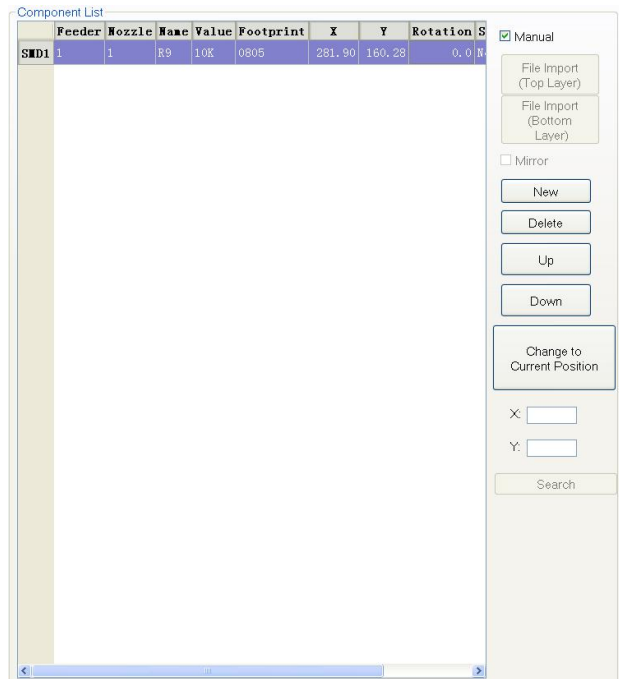

Figure 4.8
- (1) If you want to find all coordinates which X value is 342.17, then insert 342.17 and click search.
- (2) If want to skip one component, choose "Yes"; if want to skip components in column or row on PCB, choose anyone component and select "row skip" or "column Skip"-normally use in long led strip programming work. See the Figure 4.8.